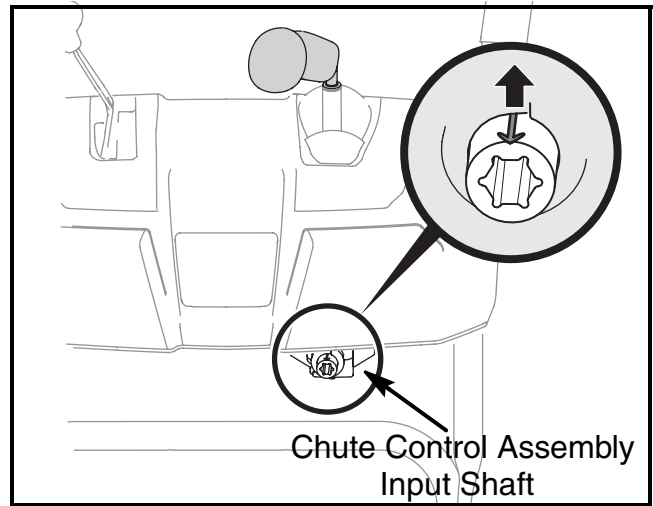

FIGURE 15
27. Rotate the joystick until the silver indicator arrow on the chute control assembly input shaft, below the control panel, faces upward. See Figure 15.